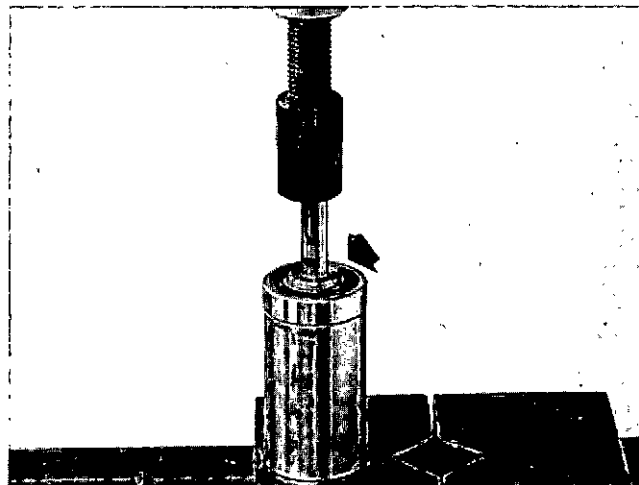

Fig. 8-8 (N10851). Push The Shaft Into The Bearing.
1. Apply a coat of clean lubricating oil to the outside diameter of the shaft. Support the new inner bearing with a Part No. ST-658 Mandrel. Use a press to push the shaft into the bearing, Fig. 8-8. Push the shaft into the bearing until the bearing is against the larger diameter (shoulder) of the shaft.